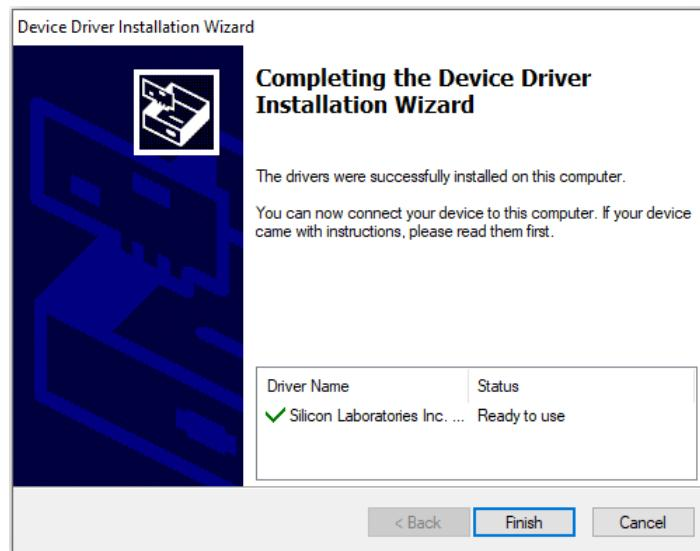

Figure 8: Driver Set-Up Success
4. Wait for the status screen to verify that installation is complete (see Figure 8 on page 9).